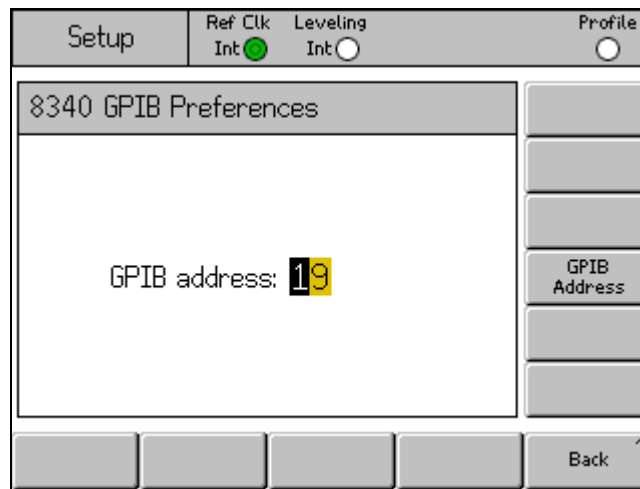

Figure 25. 8340A GPIB Preferences Screen
5. Set the GPIB Address as necessary. See Figure 25.